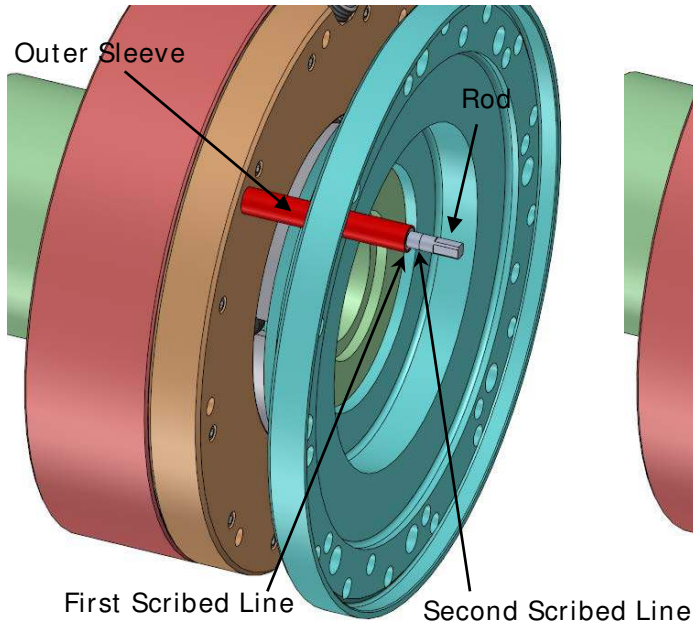

Figure 6a - Setting Initial Grip Position
3.4.11 The proper setting of the HTC is accomplished by the separation or gap between the two halves of the clamp (see Figure 1a). Special Gap Tools (Riverhawk PN 7500605 for the drive-end, and PN 7500596 for the compressor-end) have been provided to facilitate this setting. Be sure you maintain the First Grip Position from the previous step until the tool is in place. Thread the gap tool into one of the retraction screw holes until the outer sleeve aligns with the first scribe line on the rod (see Figure 6a). The tool is spring loaded so you will need to push and turn in order to start the thread.